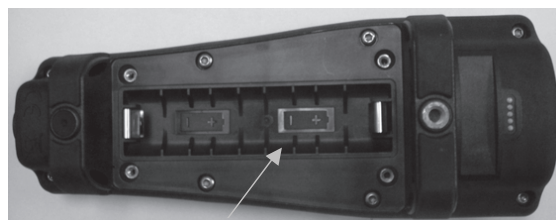

Figure 1. Pro Plus with battery cover removed. Notice battery symbols indicating polarities.
3. Remove the battery cover and install the new batteries, ensuring correct polarity alignment on the instrument or the removed cover. (Figure 1)